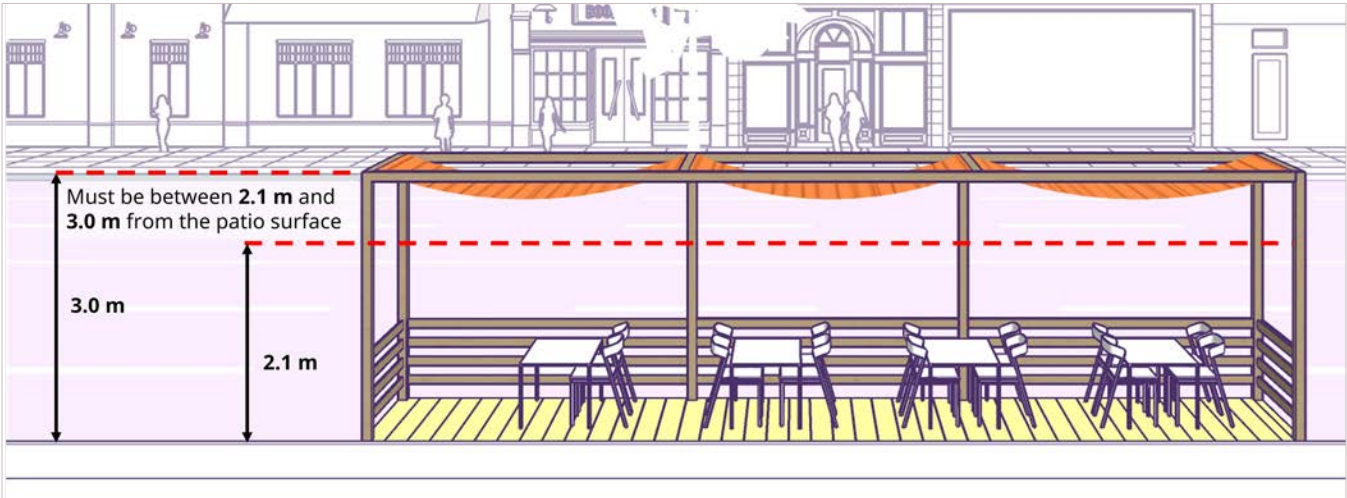

Figure 31: Overhead covers
- Must be between **2.1 m** and **3.0 m** in height from the patio surface to maintain clear traffic sightlines. (see Figure 31).